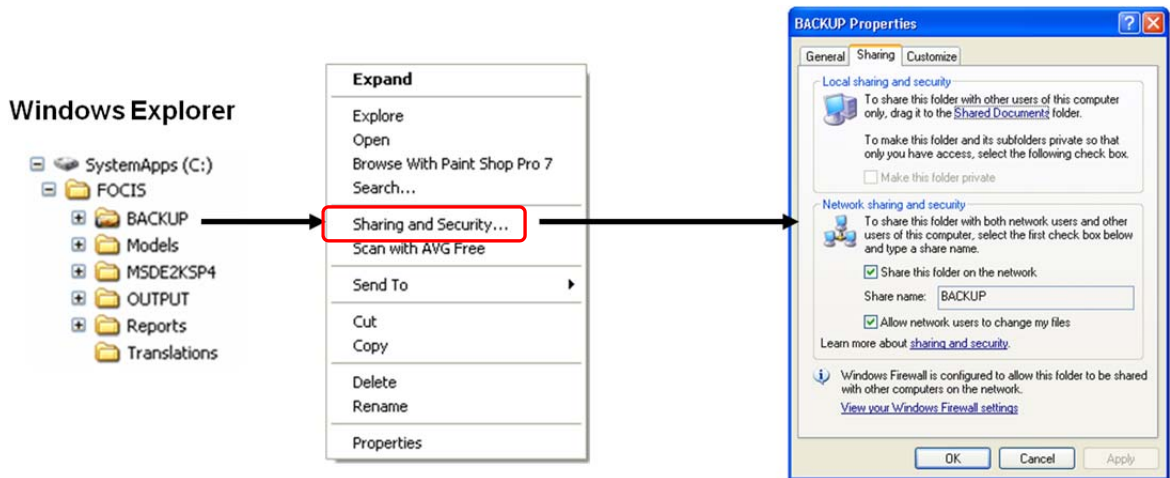

Figure III-20. Navigation from Windows Explorer to Backup Properties Window
- a. Use Windows Explorer to find the **FOCIS** folder (Figure III-20).